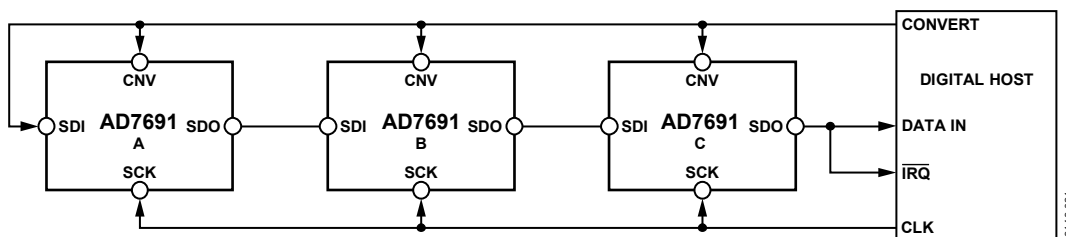
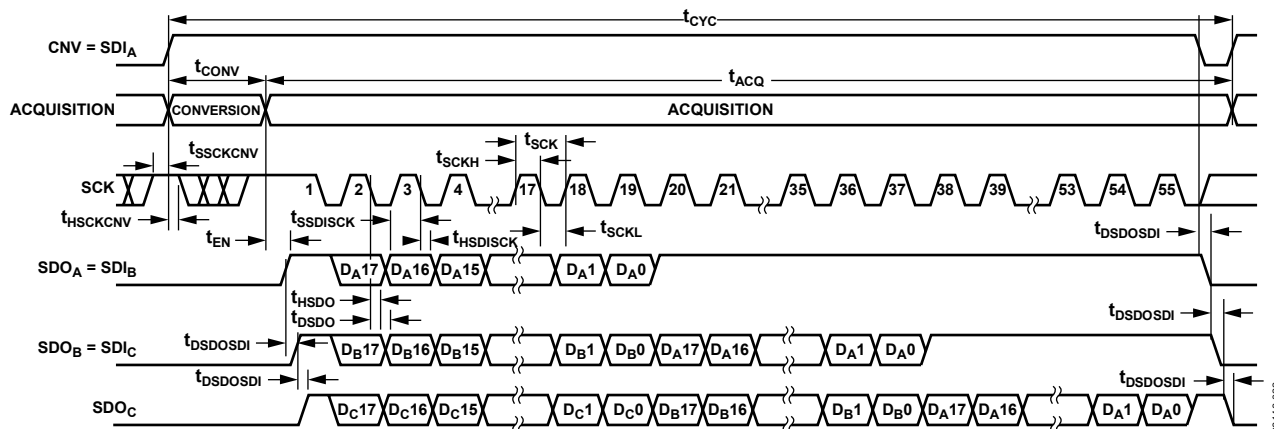

Figure 45. Chain Mode with Busy Indicator Connection Diagram
Figure 46. Chain Mode with Busy Indicator Serial Interface Timing
- In the chain mode if SCK is high during the CNV rising edge (see Figure 46).
A connection diagram example using three AD7691s is shown in Figure 45, and the corresponding timing is given in Figure 46.
completed their conversions, the SDO pin of the ADC closest to the digital host (see the AD7691 ADC labeled C in Figure 45) is driven high. This transition on SDO can be used as a busy indicator to trigger the data readback controlled by the digital host. The AD7691 then enters the acquisition phase and powers down. The data bits stored in the internal shift register are clocked out, MSB first, by subsequent SCK falling edges. For each ADC, SDI feeds the input of the internal shift register and is clocked by the SCK falling edge. Each ADC in the chain outputs its data MSB first, and $18 \times N + 1$ clocks are required to readback the N ADCs. Although the rising edge can be used to capture the data, a digital host using the SCK falling edge allows a faster reading rate and, consequently, more AD7691s in the chain, provided the digital host has an acceptable hold time.